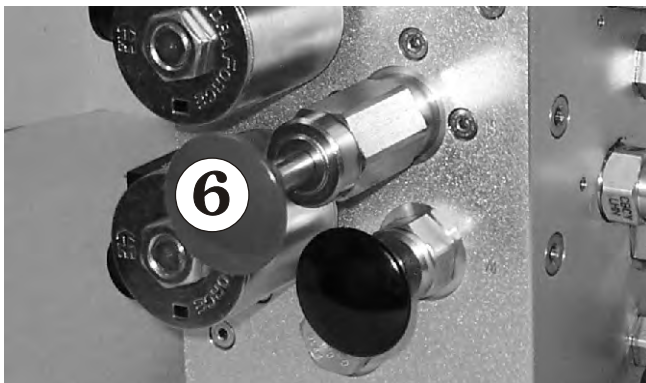

Figure 9.10
- To release the brakes, pump the hand pump ⑥ 5 - 10 times. (see Figure 9.10). The brakes will now be released and the S3970RT / S3370RT / S2770RT is ready to be pushed or towed.